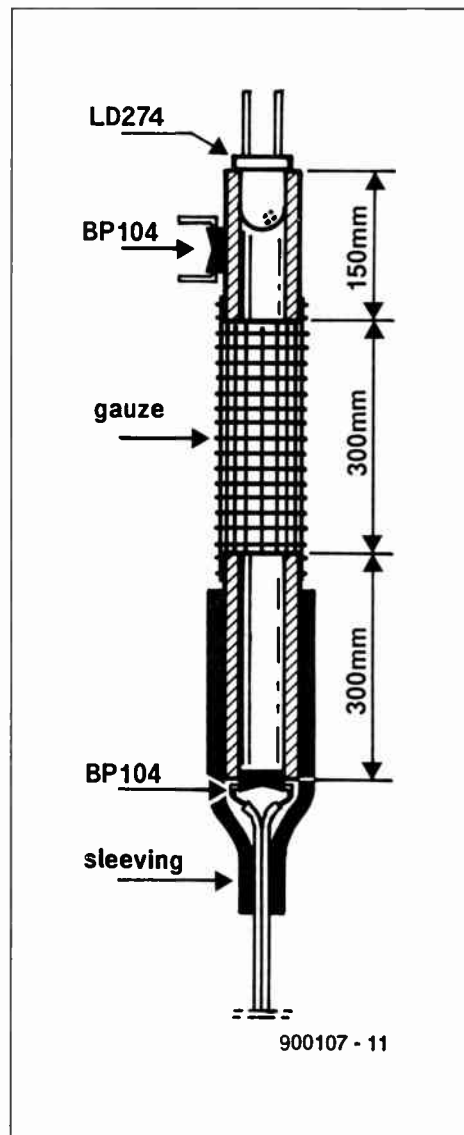

Fig. 1. Construction of the infra-red barrier that forms the sensor of the smoke detector.
The sensor is housed in a transparent ball-point holder. Figure 1 shows the general construction of the device. The sensor is based on the principle that smoke attenuates infra-red (IR) light transmitted through air. The higher the smoke density, the lower the IR light intensity on the photodiode. The transmitter, an IRED Type LD274, is fitted in an approximately 1.5-cm long piece of the ball-point holder. The inside diameter of the holder may have to be drilled out to enable the IRED to be seated firmly. The photodiode is fitted in a similar manner at the end of a 3-cm long tube section which is made light-resistant with a piece of heat-shrink sleeving or black self-adhesive tape. This is not necessary for the transmitter tube, although a few pieces of heat-shrink sleeving may be used to give it the same diameter as the receiver tube. This is done mainly to enable the two tubes to be fitted face to face on a small piece of stripboard, which also accommodates the electronic circuit. Do not make the transmitter tube light-resistant over the full length, since an additional photodiode must be mounted on it to function as a reference device. This diode is fitted at the outside of the transmitter tube, in direct optical contact with the IRED.